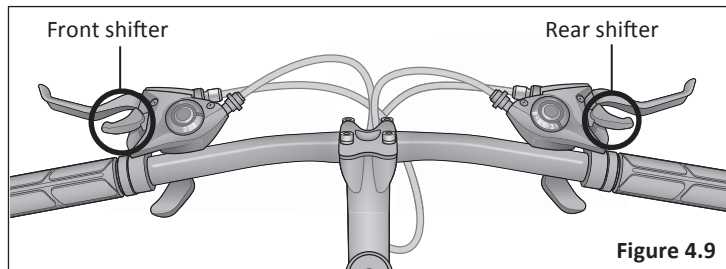

Figure 4.9
- ❶ Begin by shifting the rear shifter to largest number indicated and place the chain on the smallest sprocket. **Figure 4.9**